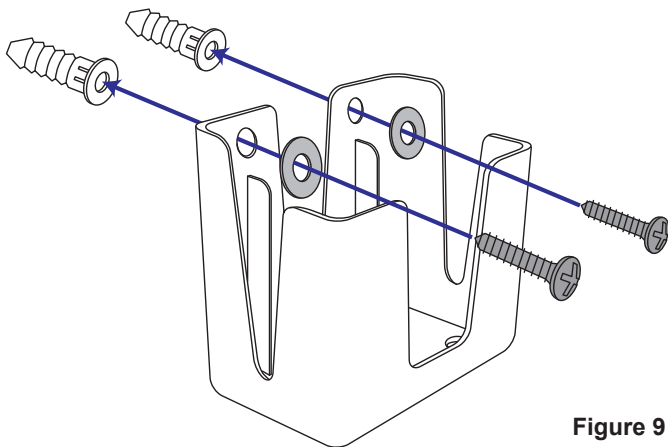

Figure 9
4. Line up the holes in the cradle with the screw anchors and mount the cradle to the wall using two screws and two washers (see Figure 9). Tighten the screws with a Phillips-head screwdriver.
3. Line up the holes in the cradle with the screw anchors and mount the cradle to the wall using two screws and two washers (see Figure 9). Tighten the screws with a Phillips-head screwdriver.